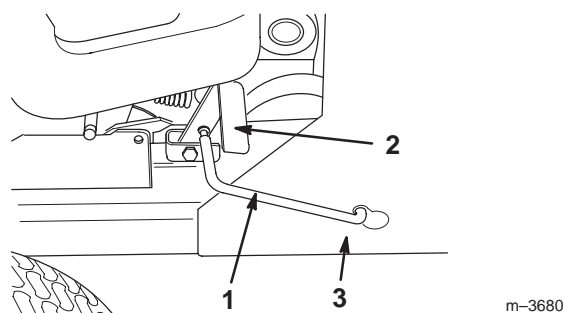

Figure 16
10. On the right side of the tractor, pull forward on the spring tension link lever and connect the spring tension link from the spring tension link lever on the pulley housing to the snowthrower frame (Fig. 16).